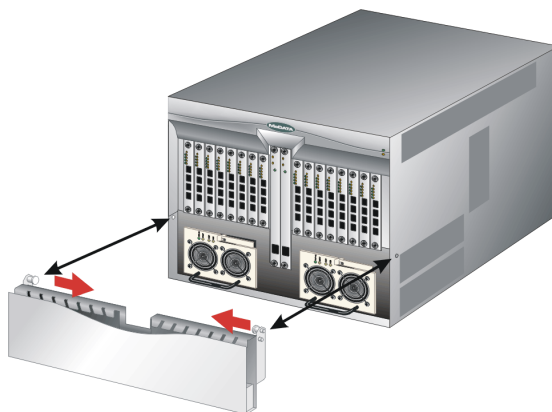

Figure 5-3 Cable Management Assembly Removal and Replacement
- 3. Two captive pins secure the assembly to the chassis (Figure 5-3). Pull both pins inward to release the assembly, then pull the assembly away from the front of the director.
1. Position the cable management assembly at the front of the director chassis (Figure 5-3).